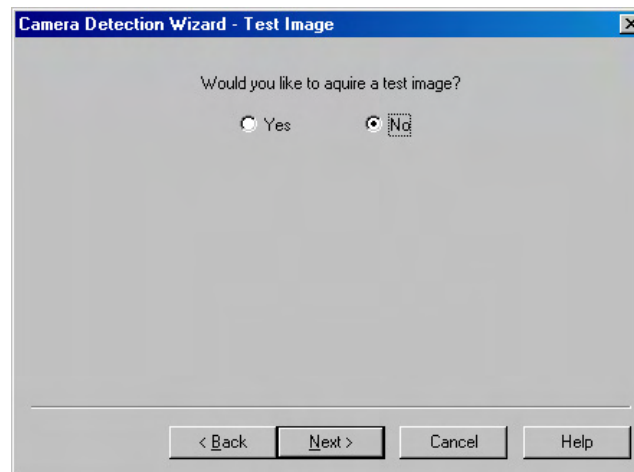

Figure 14. Camera Detection Wizard - Test Image dialog box
4. When you have finished with these selections, you will see the **Test Image** dialog box (Figure 14). The default selection is "**No**". If you select "**Yes**", you must make sure that the system is connected to the host computer and that the camera system is turned **ON** before you click on the **Next** button.